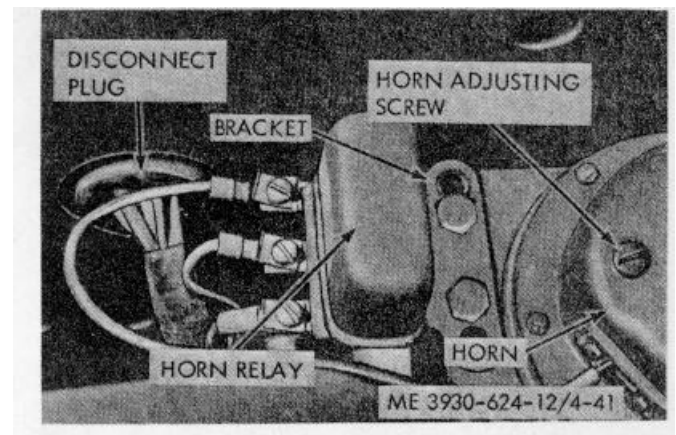

Figure 4-41. Horn relay.
a. *Removal.* Remove two nuts, washers, and capscrews securing the horn relay to the bracket. Tag and disconnect wiring. (Refer to fig. 4-41.)